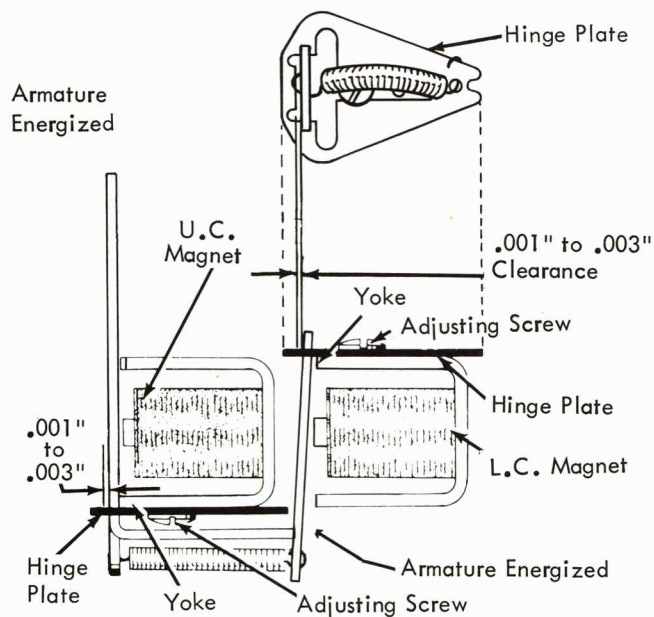

FIGURE 34. Hinge Plates
1. Hinge Plates (Fig. 34) - Position the hinge plates with the armatures manually attracted to obtain .001" to .003" clearance between the armatures and hinge plates.